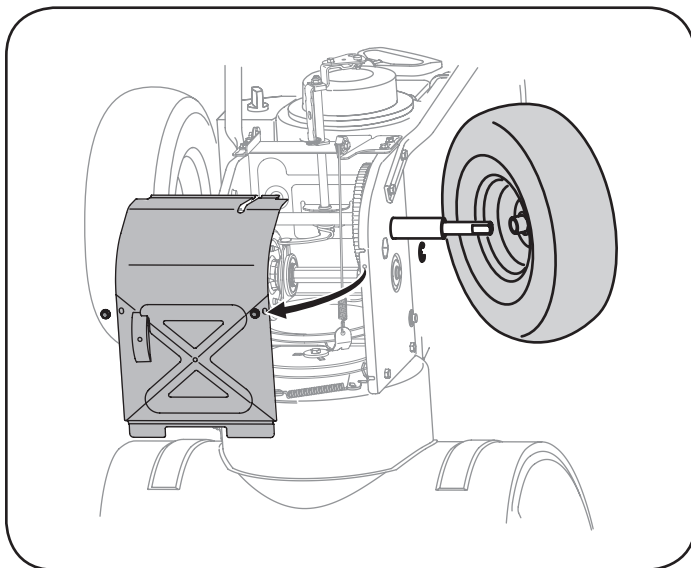

Figure 34
- Remove the right-hand wheel by removing the screw and bell washer which secure it to the axle. See Figure 34.